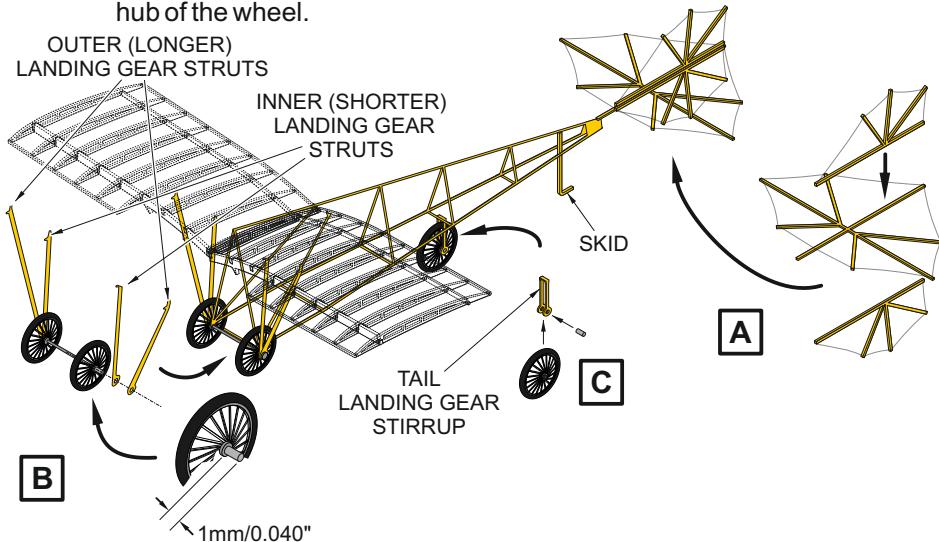

Figure 5
- A Assemble the tailplane (see Figure 5, Detail A).
- (1) Remove the tailplane and the upper and lower fins from the fret and remove any burrs from the attachment tags.
- (2) Tin the mating faces of the upper and lower fins and the tailplane.
- (3) Attach the upper fin to the tailplane.
- (4) Attach the lower fin to the tailplane.
- B Assemble the main landing gear (see Figure 5, Detail A).
- (1) Make the axle from the wire supplied,.
- (2) Attach one wheel to the axle with approximate 1 mm projecting from the hub of the wheel.
C Assemble the tail landing gear (see Figure 5, Detail C).